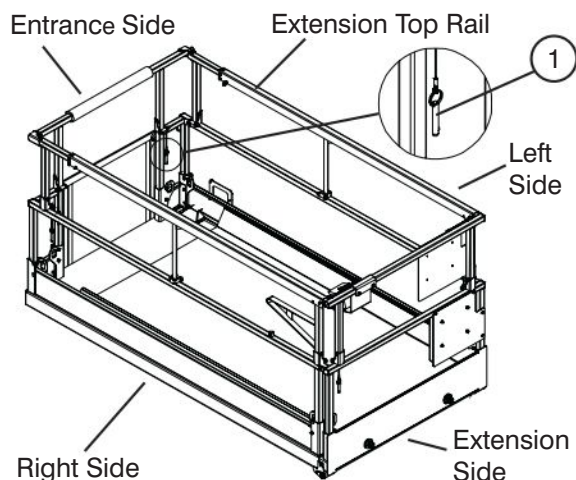

Figure 3-12a. Folding Guardrail System
7. Carefully raise each guardrail up and lock into place with locking pins ensuring that the detent ball of each pin is all the way through (Refer to Figure 3-12a).